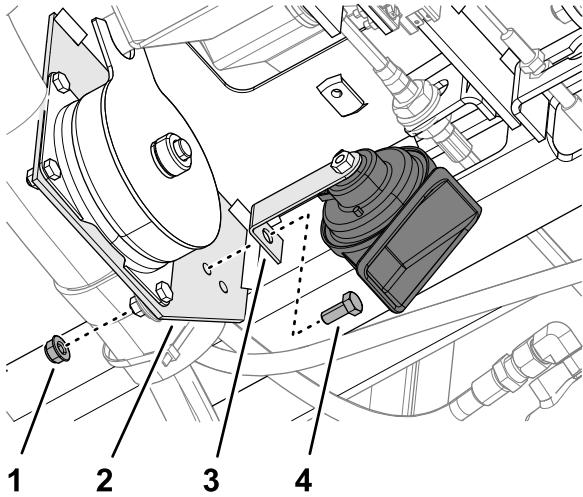

Figure 10
1. Assemble the bracket of the horn to the clutch plate (Figure 10) with a capscrew (5/16 x 3/4 inch) and a flange locknut (5/16 inch).